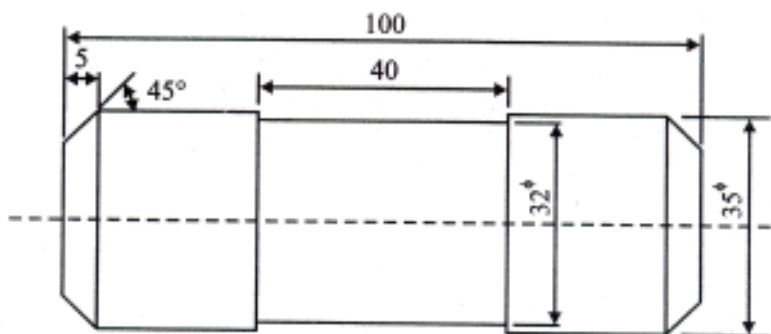

Fig. 5.23
2. a) For the component shown in fig. 5.23 to be manufactured by using standard lathe machine, explain following :